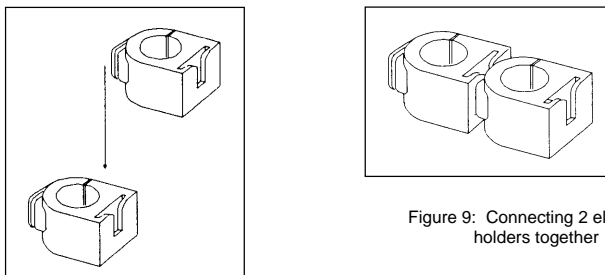

Figure 9: Connecting 2 electrode holders together
1. Align the flange of the second electrode holder with the slot of the first holder (Figure 9).